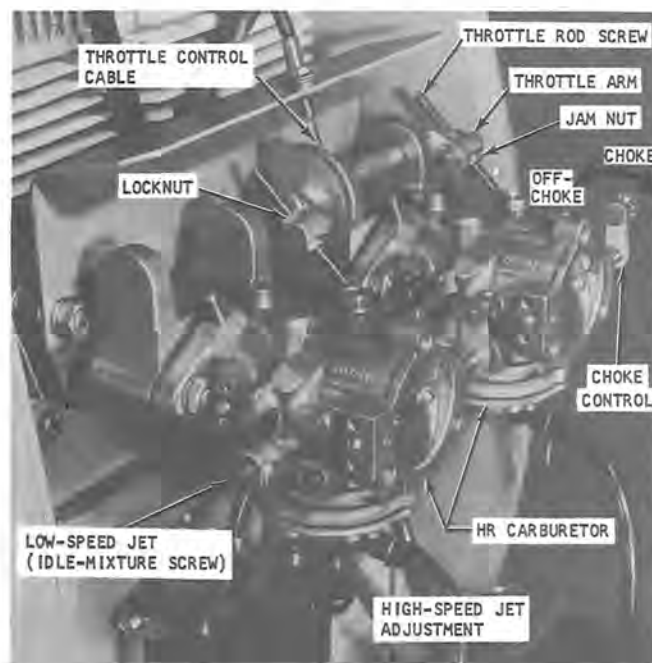

Figure 10
- **TO ADJUST CARBURETOR** – Close the high-speed jet as shown in figure 10 (**DO NOT FORCE**). Then open as indicated in the carburetor adjustment chart, figure 11 for the particular model Ski-Daddler.
- Turn the low speed jet (idle-mixture screw) as shown in figure 10 all the way in (**DO NOT FORCE**), then open as indicated in figure 11 for the particular model sled. This adjustment controls the mixture at idling speeds. A lean idle mixture will result in poor acceleration.
Set the choke controls (figure 10) to off-choke position. This will permit inspection of the throttle control plate located inside the carburetor. Check to ensure that both throttle plates are in the fully open position when the throttle control is depressed. To adjust the throttle control plate, proceed as follows:
- Tighten the locknut and jam nut at the throttle arm (figure 10) to secure the throttle rod screw.